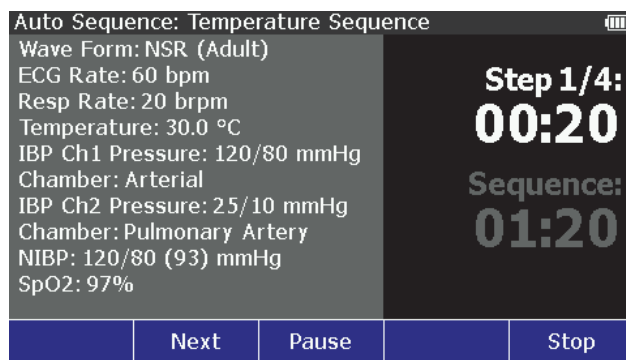

Figure 49. Autosequence Step Screen
5. Push the **Start** softkey. The autosequence screen in Figure 49 shows on the display.